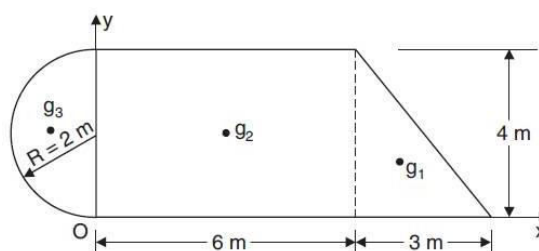

Fig. 15
4. Determine the centroid of the area shown in Fig. 15 with respect to the axis shown [L1] [6M]